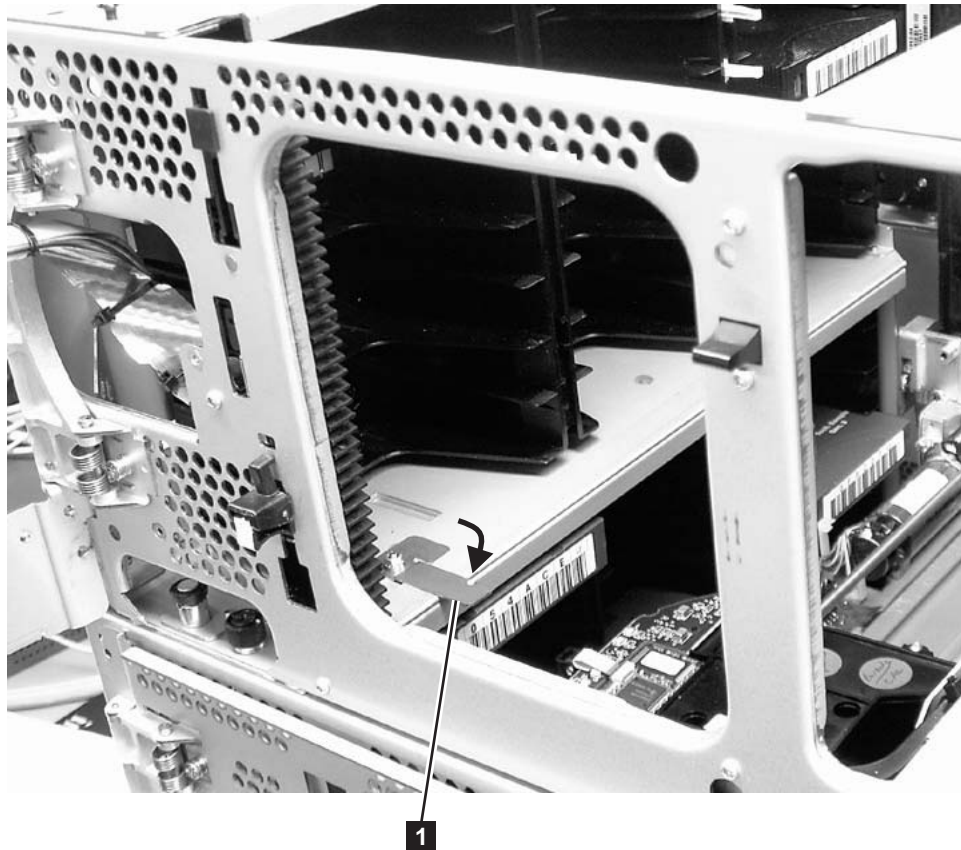

Figure 3-7. Picker locking mechanism
1. Engage the picker assembly lock mechanism (**1** in Figure 3-7). You might need to lift the picker assembly to fully engage the lock mechanism.